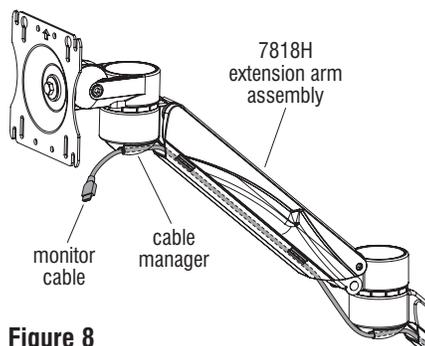

Figure 8
12. Feed monitor cables through cable managers located on the underside of the extension arm assembly (Figure 8).